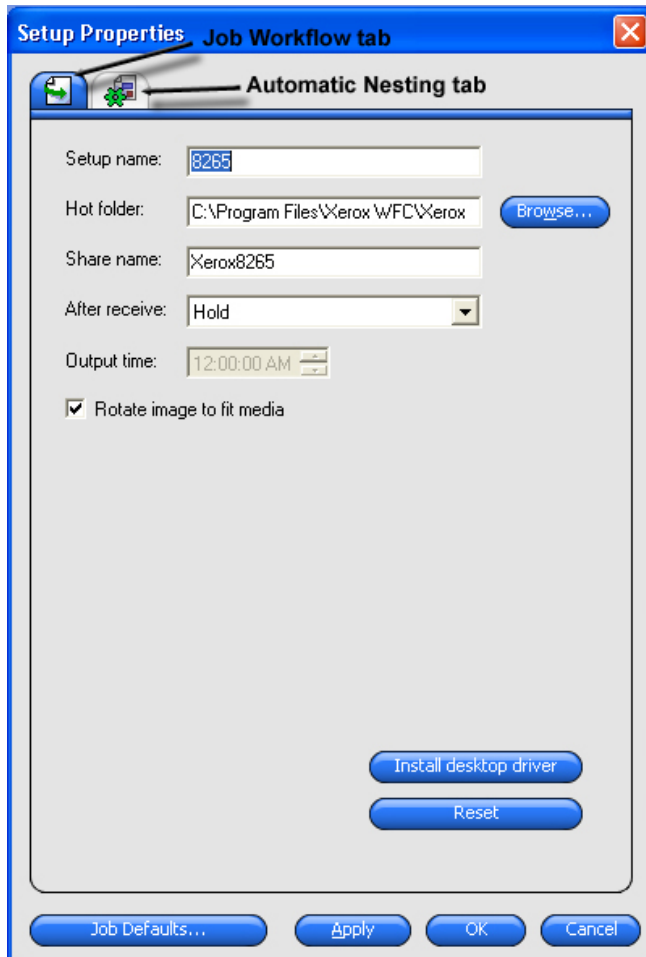

Figure 5. Setup Properties
1. At the Pull down Menu, select **Setup > Setup Properties**. The Setup Properties dialog box appears (Figure 5).